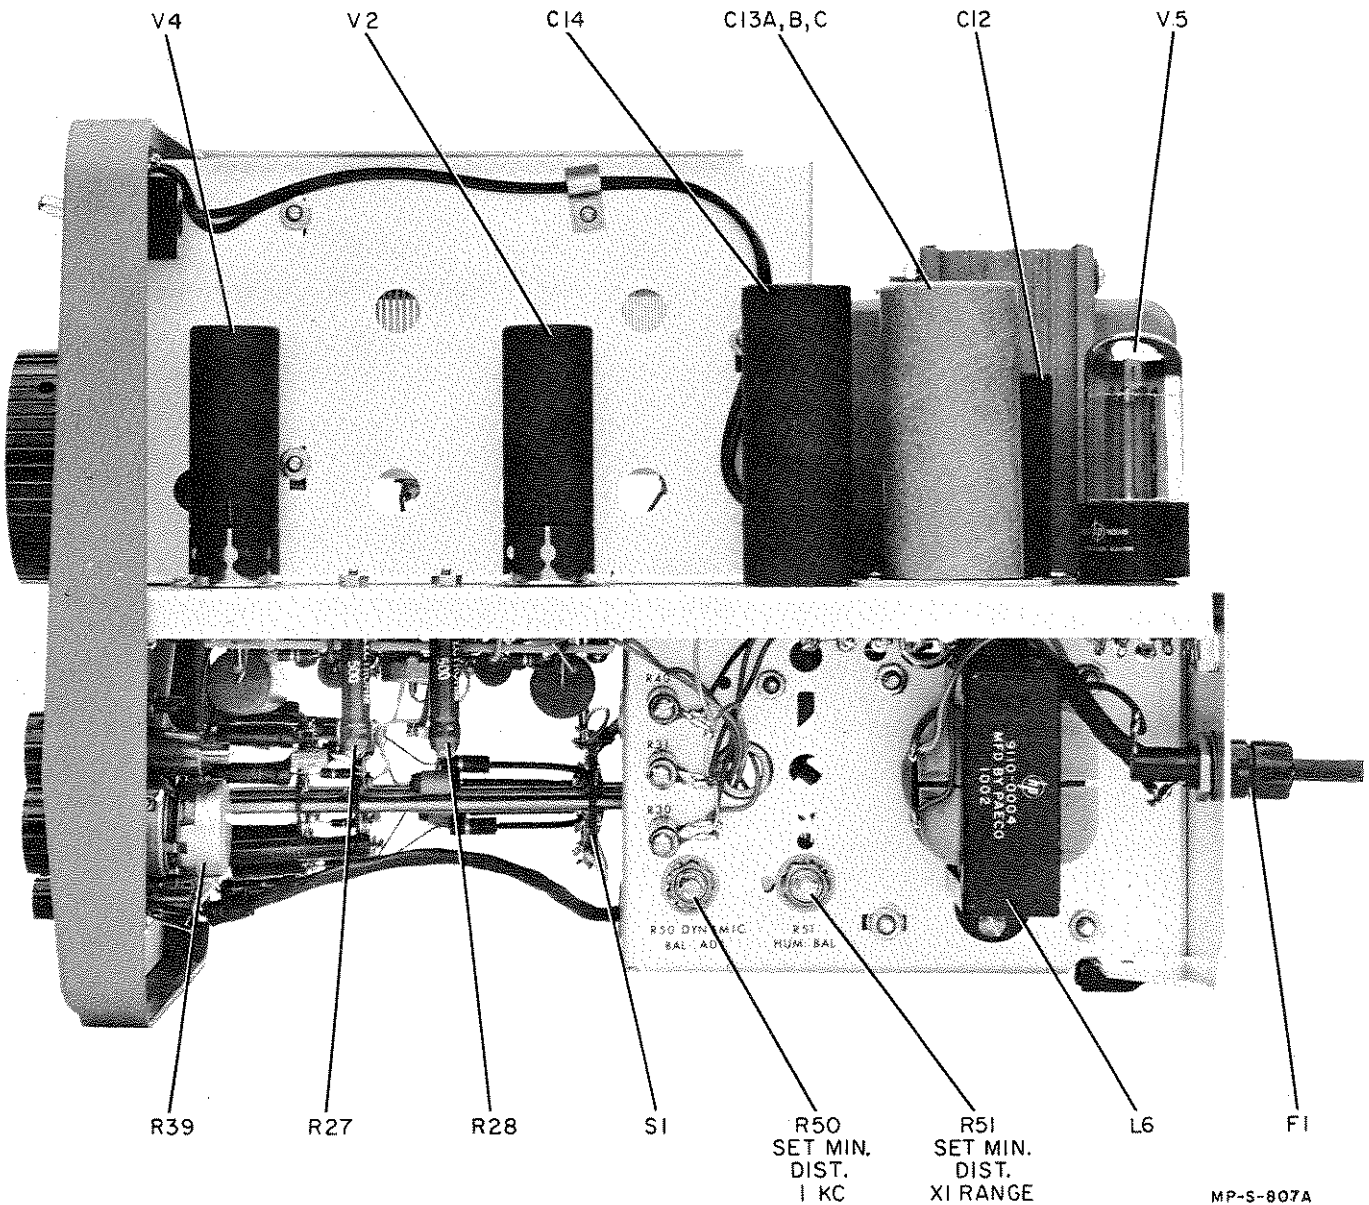

Figure 5-2. Left Side View Model 200CD
5-17. Tubes used in the Model 200CD are listed in Tube Replacement List (table 5-3). If V2 or V4 are changed, replace the special tube shields in their original positions, (shown in figure 5-2).
d. Using an dc electronic voltmeter, measure the positive and negative power supply voltages using ground as a reference. The positive voltage (approximately 225 volts) may be measured between the chassis and C14. The negative voltage (approximately 155 volts) is measured from the chassis to the junction of R30, R31 and R40 (figure 5-2). The difference between the negative and positive voltage should be 380 volts \pm 75 volts.
- h. Adjust R50 (dynamic balance) for a dip (minimum distortion; see figure 5-2) on the distortion analyzer meter until the lowest possible dip is obtained.
- j. Adjust R51 (hum balance; see figure 5-2) instead of dynamic balance in step h.